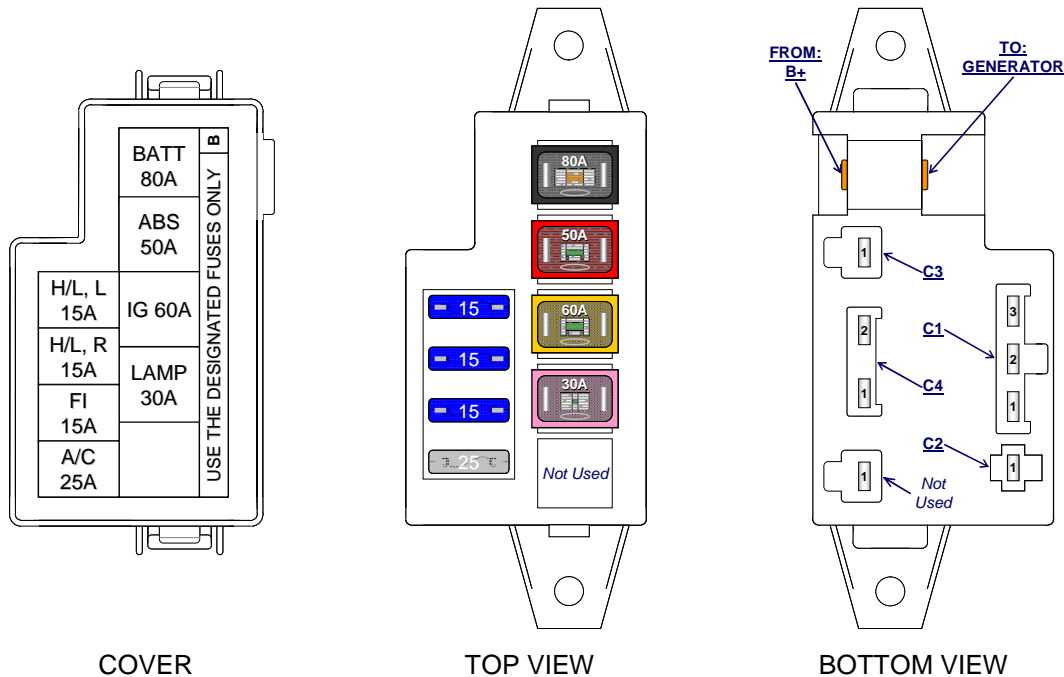

Figure: 5c
- a. Use 18" to 24" of WHT/YEL wire from the end of the C4 pigtail to construct a battery lead. Install a 1/4" terminal on one end and an appropriate terminal to connect it to the battery (B+) on the other. Bolt the 1/4" terminal to the fuse block (see fig 5c). Leave the other end free for the time being.
- b. Install a 1/4" ring terminal on cut end of WHT/YEL wire from alternator. Route to fuse block and bolt terminal in place opposite the new battery lead (see fig 5c)